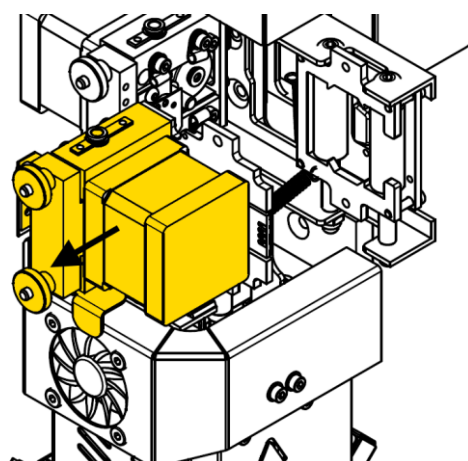

Fig. 62 Sliding the extruder out
5. Dismount the extruder (fig. 62).